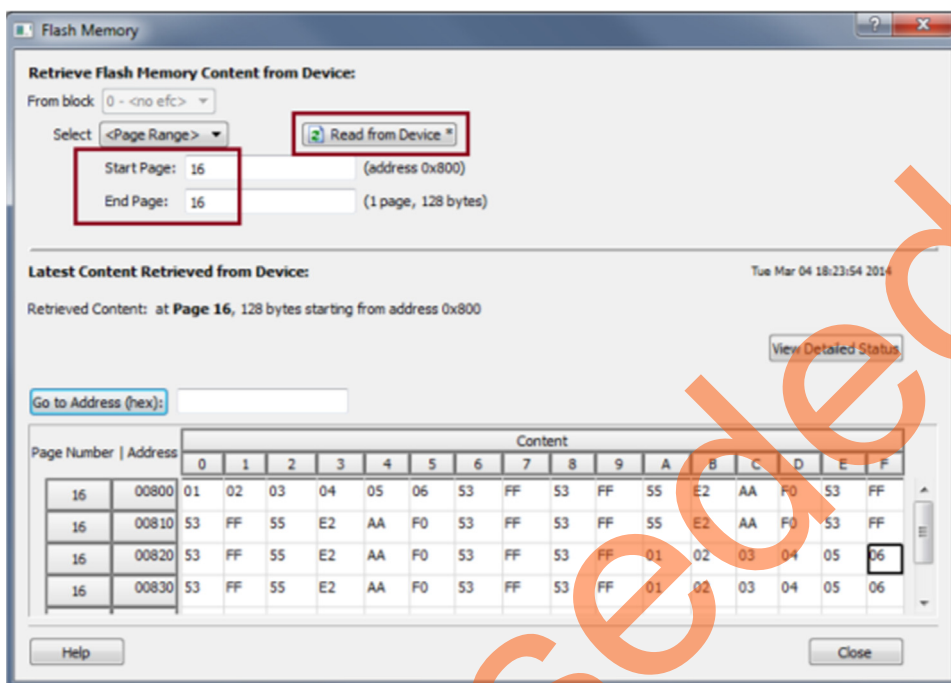

Figure 18 • Flash Memory (eNVM) Content Read from the Device
5. Click **Read from Device** as shown in Figure 18.